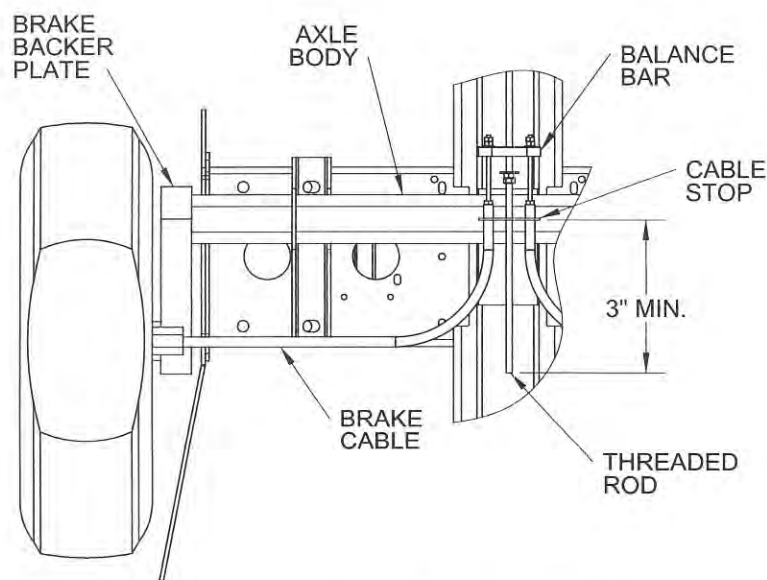

Figure 9-1. Standard Brake Adjustment Procedure
1. All brake adjustments must be done with the aerial work platform's wheels off the ground, with the **ROD** and **BRAKE CABLES** completely slack (no tension). Refer to Figure 9-1 for steps 2 through 7.
7. Confirm that the M10 x 1.5 x 82" (A-03677) fully **THREADED ROD (BRAKE ROD)**, passes through the center hole of the **BALANCE BAR** and **CABLE STOP**, and has approximately three inches (3") of the rod behind the **CABLE STOP**. Check that the two (2) M10 nuts (0096-0114) and the dish washer are assembled between the **BALANCE BAR** and **CABLE STOP** (This ensures that the rod will not be pulled through and become unsupported).